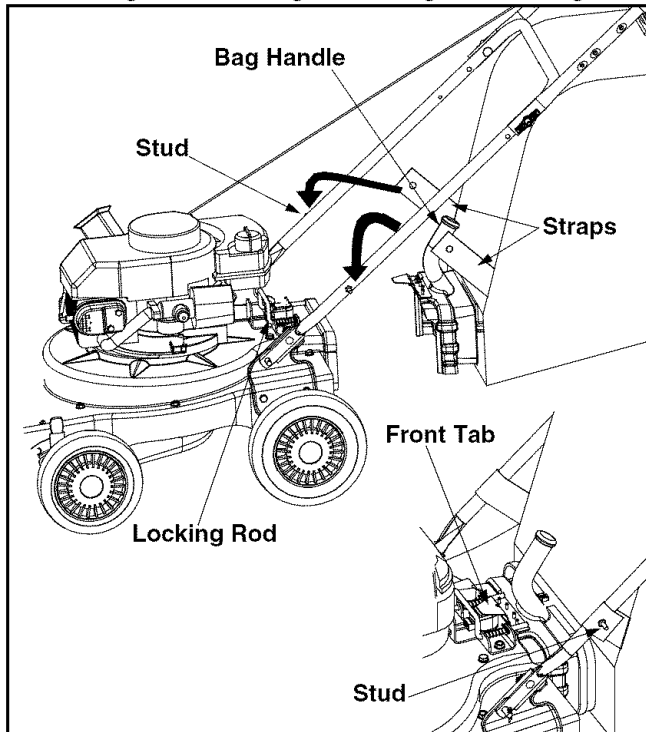

Figure 6
- Grasp bag handle with one hand and slide locking rod on mounting bracket with other hand toward engine. Use the end of mounting bracket as leverage when sliding the locking rod. See Figure 6.